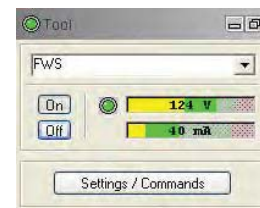
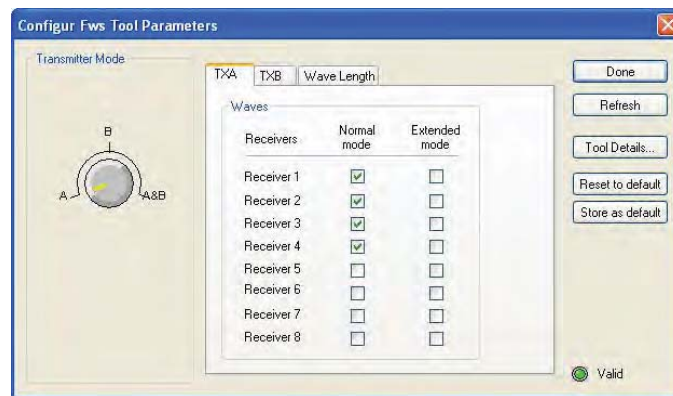

Figure 3-1 Tool panel
Figure 3-6 Receiver Selection per transmitter
2. Select the relevant QL40 FWS tool from the drop down list (**Figure 3-1**) in the software's **Tool** panel (if your tool is not listed check that your tool configuration file is stored in the designated folder on your computer).
4. On the **Tool** panel (**Figure 3-1**) click the **Settings / Commands** button to configure your tool. (see chapter 3.4 for details).
The **Configure FWS Tool Parameters** dialog box (**Figure 3-6**) can be accessed by clicking on the **Settings / Command** button on the dashboard's **Tool** panel (**Figure 3-1**).
If your FWS tool is fitted with two transmitters you can choose to operate only one transmitter or both by turning the Transmitter Mode knob (**Figure 3-6**). Turn it to position A or B to operate only a single transmitter or set it to A & B to fire both transmitters in alternance. Transmitter A is the one located closest to the bottom of the tool.